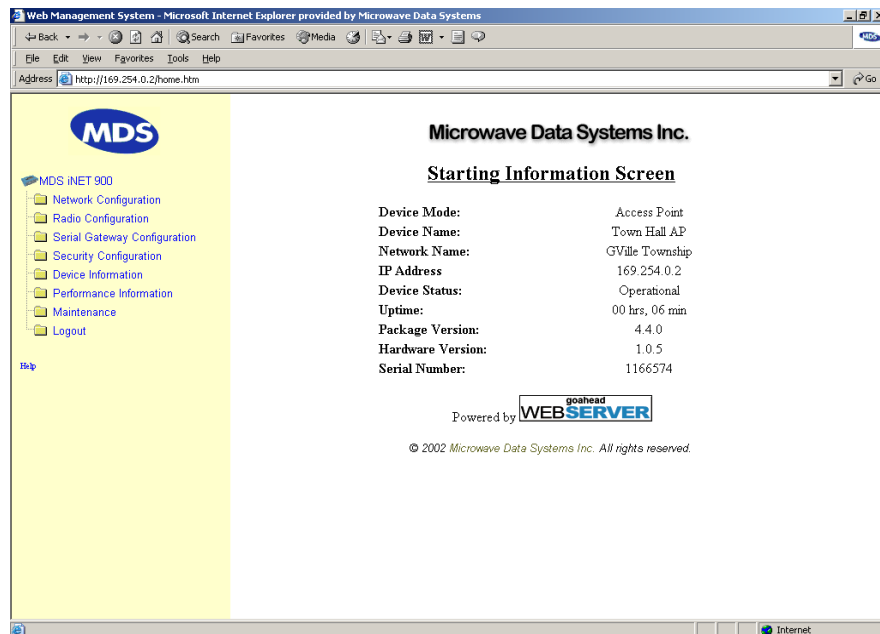

Figure 3-8. Starting Information Screen—Web Browser Example
5. Click **OK**. The unit responds with a startup menu screen similar to that shown in Figure 3-8. From here, you can review basic information about the unit or click on one of the menu items at the left side of the screen.